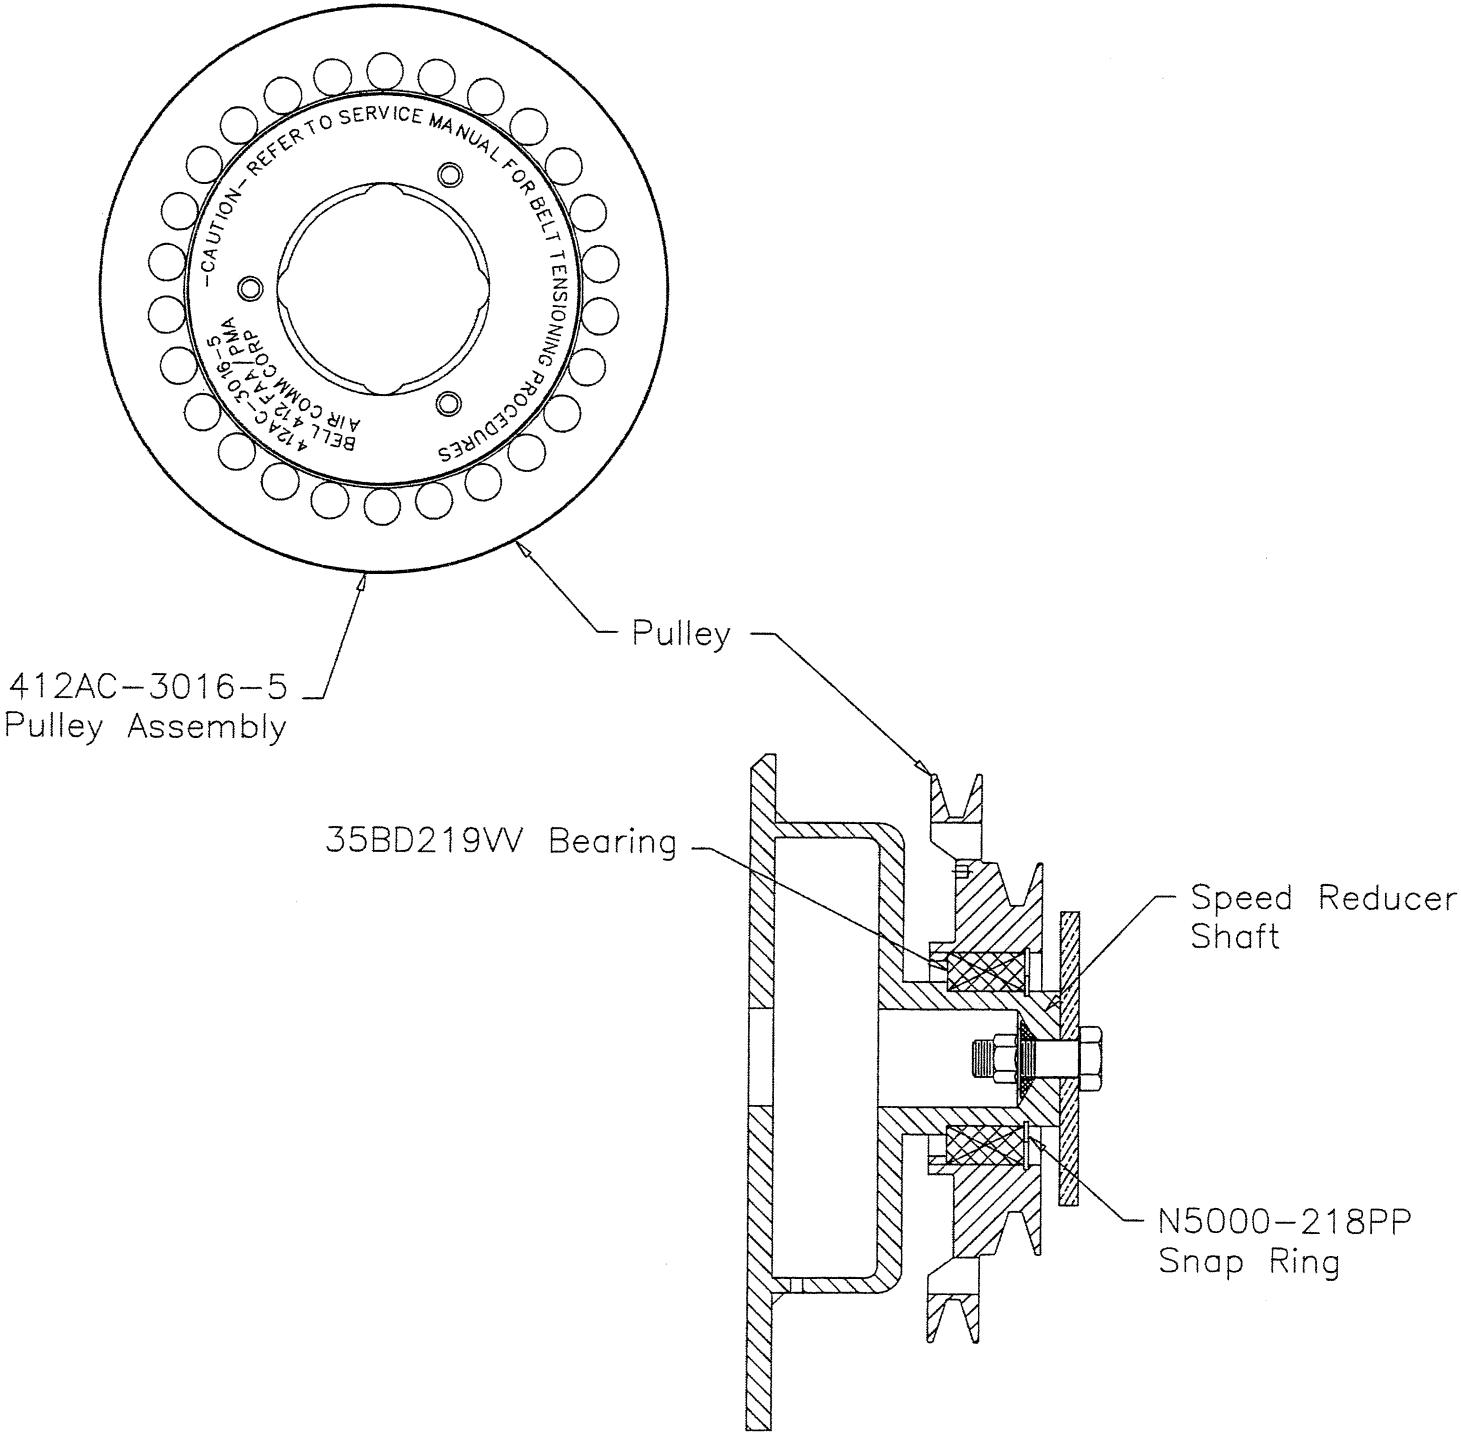

Figure 3 412 Speed Reducer Pulley and Bearing Assembly
1. Install new 35BD219DUM Bearing into the pulley, re-install the N5000-218PP Snap Ring, and re-install the 412AC-3016-4 Pulley Assembly on the to the Speed Reducer Shaft (figure 3).